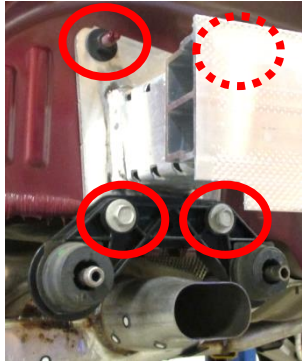

Figure 3
- Bumper beam removal** – use 15mm socket to remove (2) flange nuts and (2) bolts from bumper beam each side, see **Figure 3**. Gently remove bumper beam and exhaust rod hanger. Use a support to keep muffler from getting damaged.